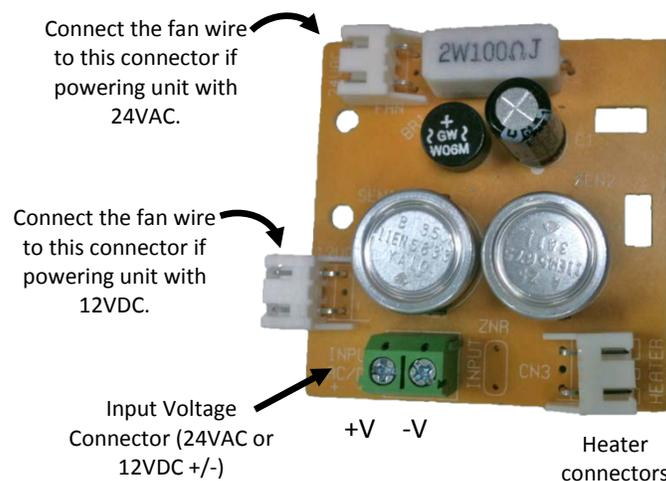

Figure 2 – Power Board
23. Connect one pair of hookup wires to the appropriate terminals on the power board (see Figure 2). If using DC voltage, be careful to check the polarity.
- 24. IMPORTANT: Plug the fan into the appropriate connector depending on the input voltage (see Figure 2).**